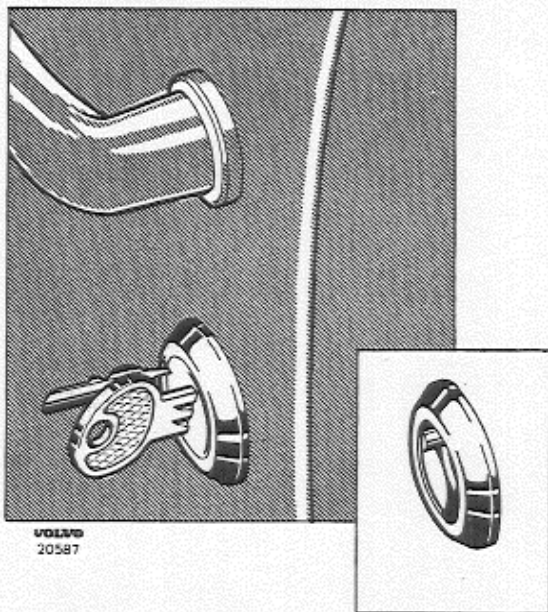

Fig. 39 Removing the lock cylinder
7. If the lock unit itself is to be removed from the lock cylinder, then the key is inserted and turned into its left-hand position. Then push in a small, pointed object such as a pen nib in the small recess in the lock plate. In this way a small catch is released and the lock unit may be drawn out after rotating slightly in an anti-clockwise direction as shown in Fig. 39.